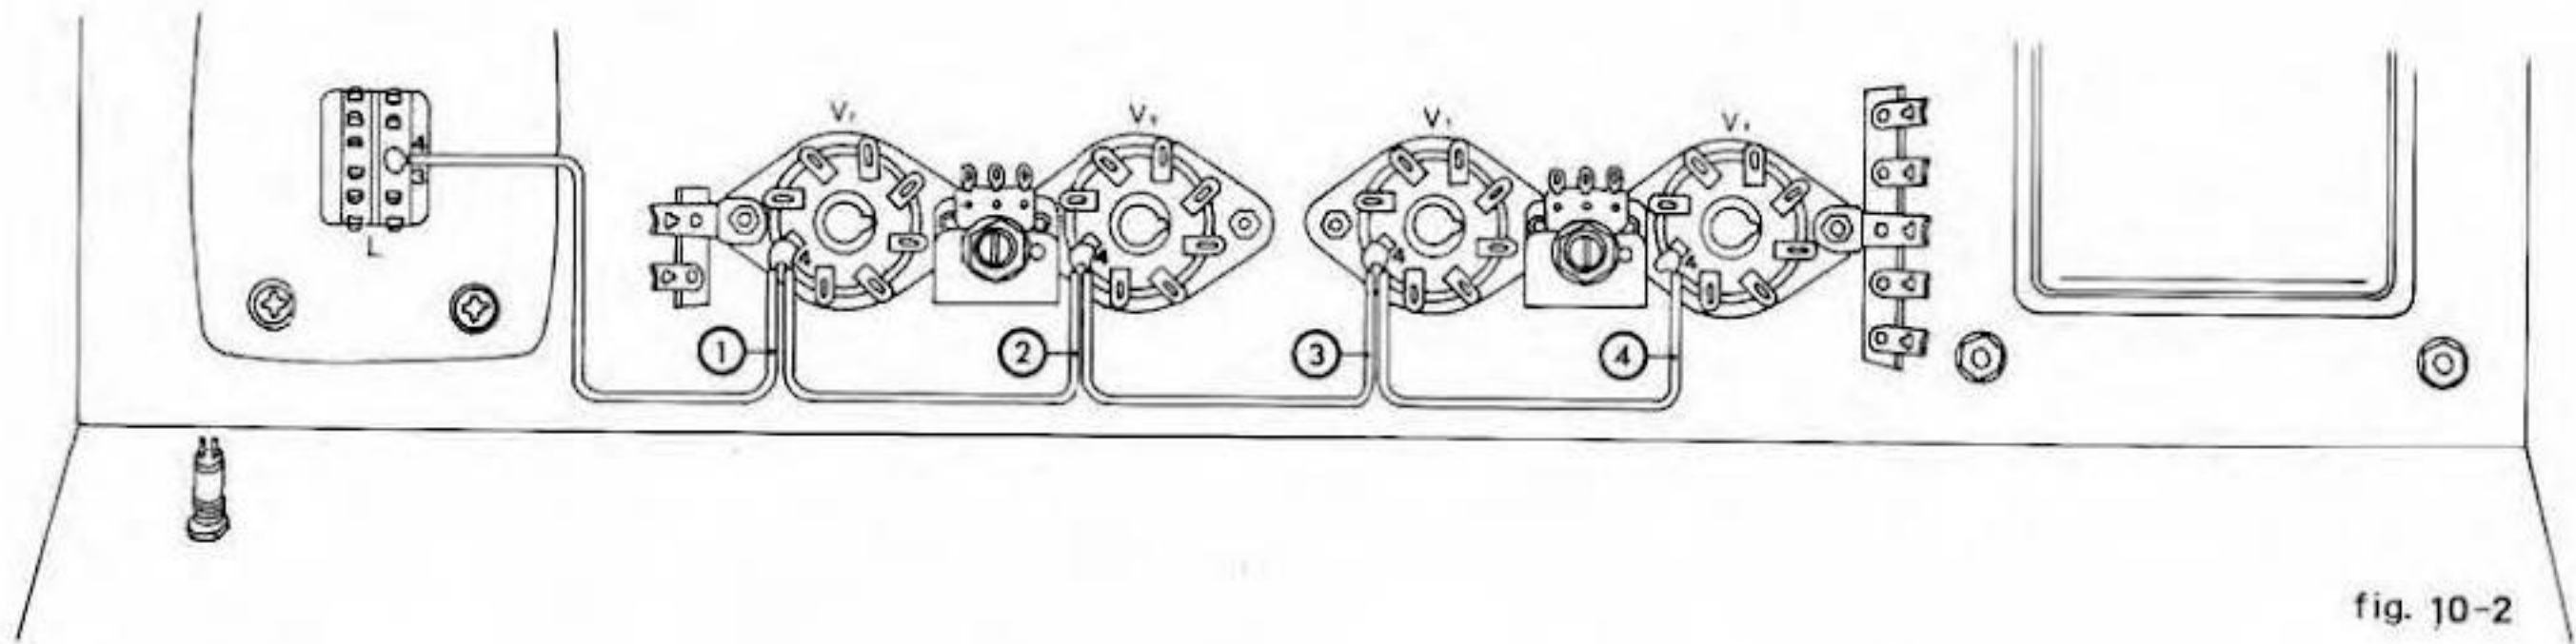

fig. 10-2
Add wiring steps ① to ④ as shown in the actual wiring diagram in fig. 10-2.
□—① Red coated wire 14cm